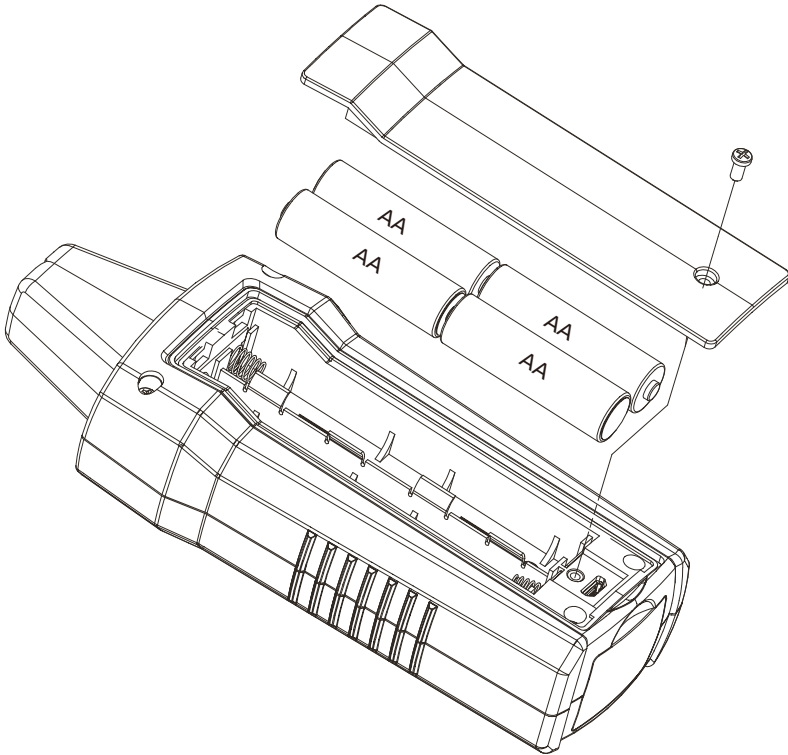

Figure 5.1: Changing the Receiver batteries
4. Replace the batteries as shown in Figure 5.1. Observe the battery polarity shown in the battery compartment.